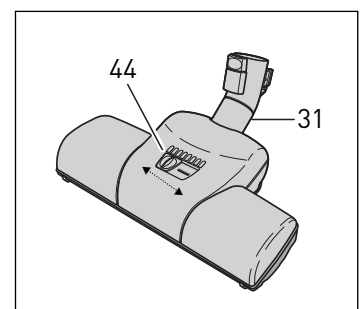

Figure 15
Turbo Nozzle - Figure 15
The Turbo nozzle (31) has an air-driven rotating brush for gentle brushing of carpets. The Turbo nozzle can be adjusted for high and low pile carpet. To adjust the head for high pile carpet, push the slider button (44) to the right. For low pile carpet, push the slider button (44) to the left. **The slider in Figure 15 is set in the low pile position.** The rotating brush should be cleaned regularly. Remove the Turbo nozzle from the telescopic tube to clean. Remove fibers and hair from the brush manually.